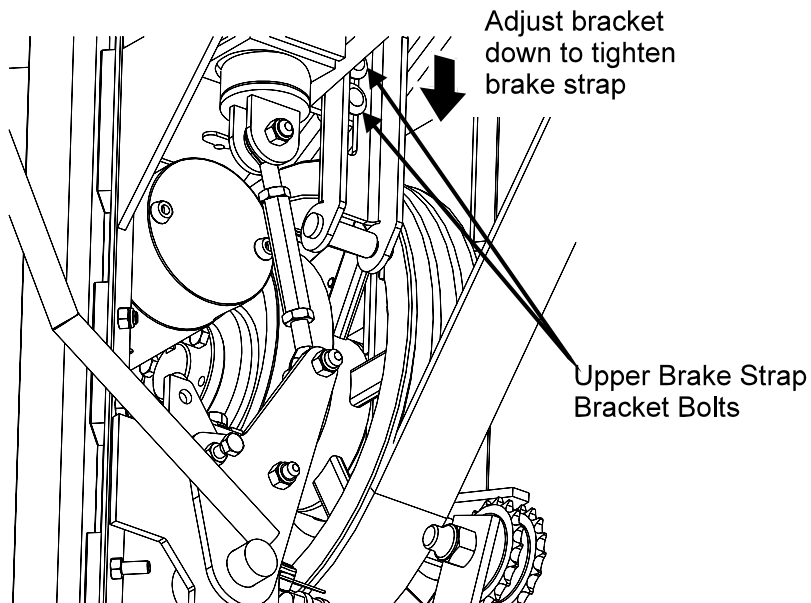

FIG. 3-6
**See Figure 3-6.** Loosen the two nuts on the upper brake strap bracket. Slide the bracket and brake strap down until snug. Retighten the bolts. Replace the belt cover.